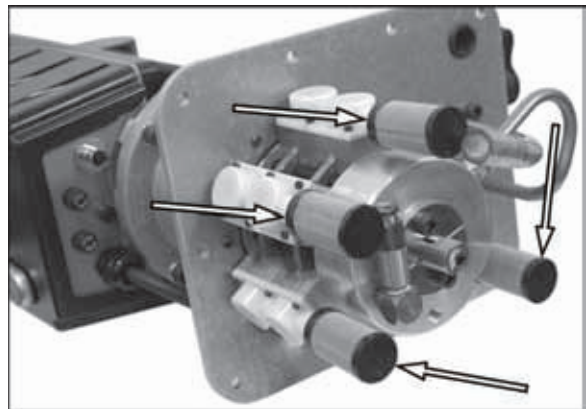

Figure 56.
2. See Figure 56. Remove the inlet suction filters.